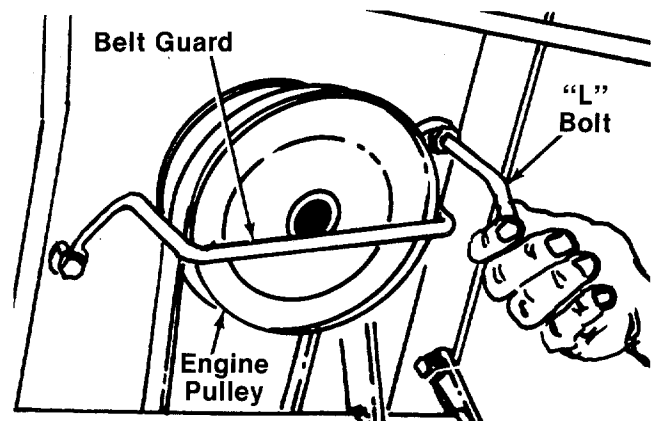

FIGURE 19.
4. Release the belt guard by unscrewing the "L" bolt next to the engine pulley. See figure 19.